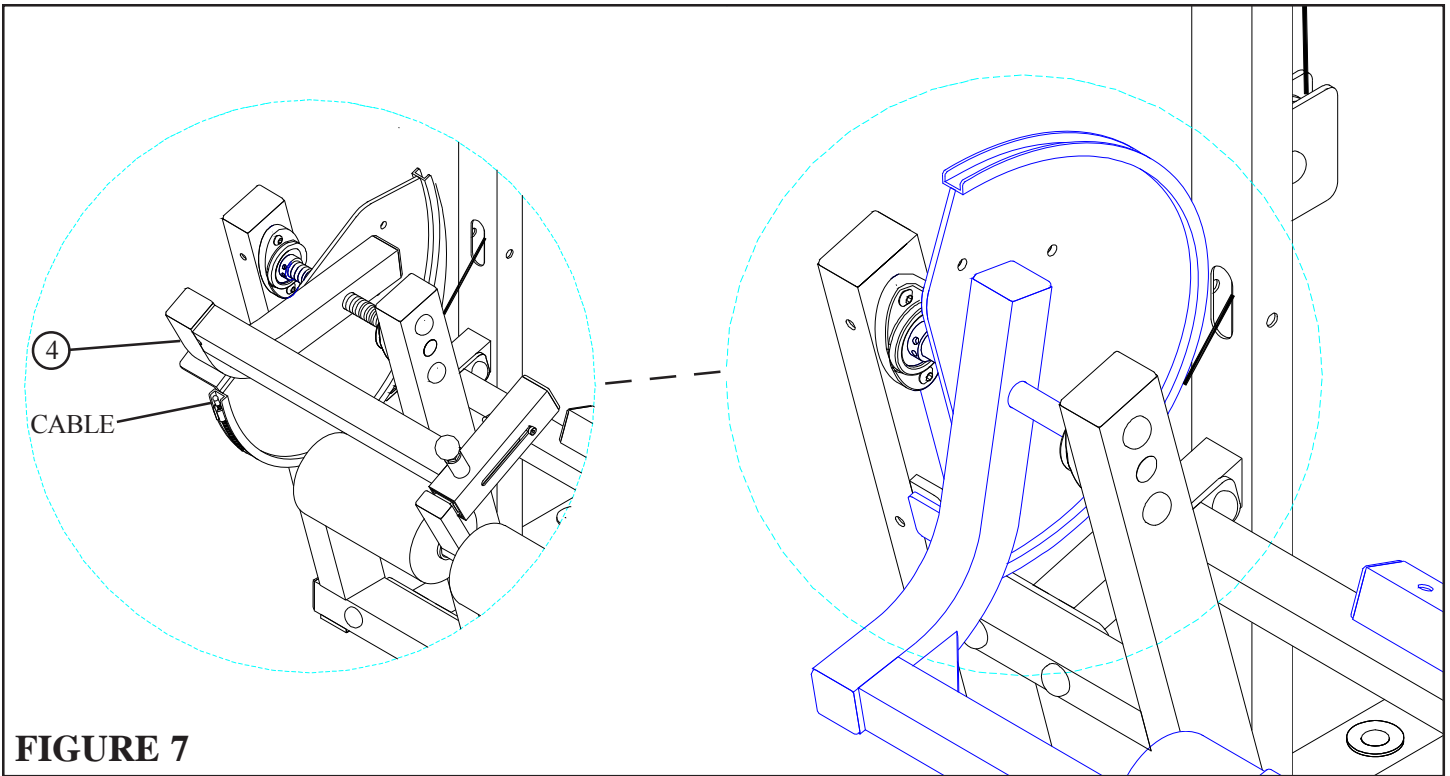

FIGURE 7
- Slide the end of the CABLE into the bushing on the PIVOT ARM (4) as shown in FIGURE 7.